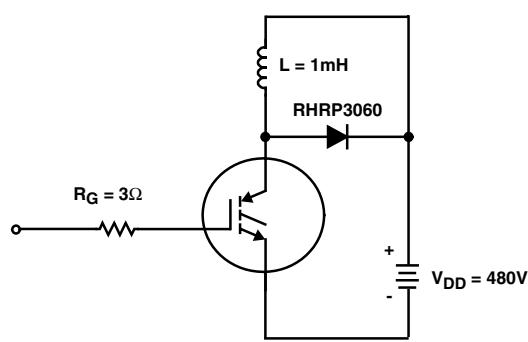

FIGURE 17. INDUCTIVE SWITCHING TEST CIRCUIT
3. Values for two Turn-On loss conditions are shown for the convenience of the circuit designer. E_{ON1} is the turn-on loss of the IGBT only. E_{ON2} is the turn-on loss when a typical diode is used in the test circuit and the diode is at the same T_J as the IGBT. The diode type is specified in Figure 17.